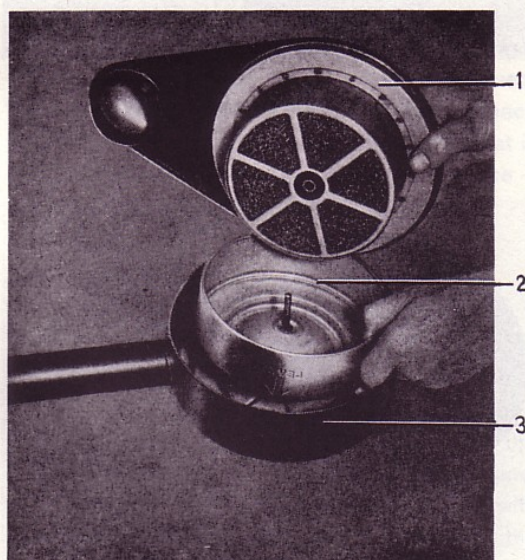

Fig. 95. Oil-bath air cleaner, cleaning, type II
1. Loosen the upper hose clip and wing nut. Lift off the upper section (1, Fig. 95).
2. Lift up the inner container (2) and empty out the old oil. Wash the container in white spirit. Also wash the element and clean the other parts.